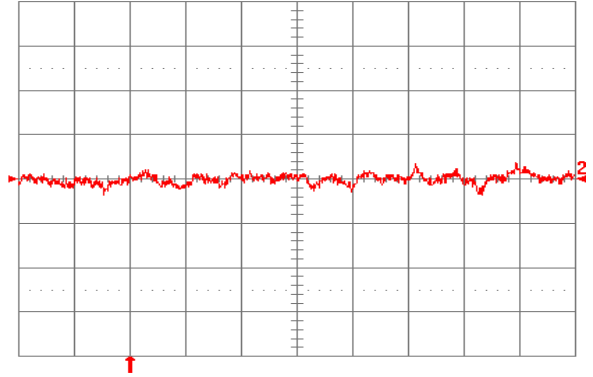

**Fig. 2.0V.14:** Test Setup for measuring input reflected ripple currents,  $i_c$  and  $i_s$ .
**Fig. 2.0V.1:** Available load current vs. ambient air temperature and airflow rates for SQ48T15020 converter with D height pins mounted vertically with  $V_{in} = 48\text{ V}$ , air flowing from pin 3 to pin 1, and maximum FET temperature  $\leq 120^\circ\text{C}$ .
**Fig. 2.0V.2:** Available load current vs. ambient air temperature and airflow rates for SQ48T15020 converter with D height pins mounted horizontally with  $V_{in} = 48\text{ V}$ , air flowing from pin 3 to pin 1, and maximum FET temperature  $\leq 120^\circ\text{C}$ .
**Fig. 2.0V.3:** Available load current vs. ambient air temperature and airflow rates for SQ48S15020 converter mounted vertically with  $V_{in} = 48$  V, air flowing from pin 3 to pin 1, and maximum FET temperature  $\leq 120$  °C.
**Fig. 2.0V.4:** Available load current vs. ambient air temperature and airflow rates for SQ48S15020 converter mounted horizontally with  $V_{in} = 48$  V, air flowing from pin 3 to pin 1, and maximum FET temperature  $\leq 120$  °C.
**Fig. 2.0V.5:** Efficiency vs. load current and input voltage for SQ48T/S15020 converter mounted vertically with air flowing from pin 3 to pin 1 at a rate of 300 LFM (1.5 m/s) and  $T_a = 25$  °C.
**Fig. 2.0V.6:** Efficiency vs. load current and ambient temperature for SQ48T/S15020 converter mounted vertically with  $V_{in} = 48$  V and air flowing from pin 3 to pin 1 at a rate of 200 LFM (1.0 m/s).
**Fig. 2.0V.7:** Power dissipation vs. load current and input voltage for SQ48T/S15020 converter mounted vertically with air flowing from pin 3 to pin 1 at a rate of 300 LFM (1.5 m/s) and  $T_a = 25^\circ\text{C}$ .
**Fig. 2.0V.8:** Power dissipation vs. load current and ambient temperature for SQ48T/S15020 converter mounted vertically with  $V_{in} = 48\text{ V}$  and air flowing from pin 3 to pin 1 at a rate of 200 LFM (1.0 m/s).
**Fig. 2.0V.9:** Turn-on transient at full rated load current (resistive) with no output capacitor at  $V_{in} = 48\text{ V}$ , triggered via ON/OFF pin. Top trace: ON/OFF signal (5 V/div.). Bottom trace: output voltage (1 V/div.). Time scale: 2 ms/div.
**Fig. 2.0V.10:** Turn-on transient at full rated load current (resistive) plus 10,000  $\mu\text{F}$  at  $V_{in} = 48\text{ V}$ , triggered via ON/OFF pin. Top trace: ON/OFF signal (5 V/div.). Bottom trace: output voltage (1 V/div.). Time scale: 2 ms/div.
**Fig. 2.0V.11:** Output voltage response to load current step-change (3.75 A – 7.5 A – 3.75 A) at  $V_{in} = 48$  V. Top trace: output voltage (100 mV/div.). Bottom trace: load current (5 A/div.). Current slew rate: 0.1 A/ $\mu$ s.  $C_o = 1$   $\mu$ F ceramic. Time scale: 0.2 ms/div.
**Fig. 2.0V.12:** Output voltage response to load current step-change (3.75 A – 7.5 A – 3.75 A) at  $V_{in} = 48$  V. Top trace: output voltage (100 mV/div.). Bottom trace: load current (5 A/div.). Current slew rate: 5 A/ $\mu$ s.  $C_o = 450$   $\mu$ F tantalum + 1  $\mu$ F ceramic. Time scale: 0.2 ms/div.
**Fig. 2.0V.13:** Output voltage ripple (20 mV/div.) at full rated load current into a resistive load with  $C_o = 10$   $\mu$ F tantalum + 1  $\mu$ F ceramic and  $V_{in} = 48$  V. Time scale: 1  $\mu$ s/div.
**Fig. 2.0V.15:** Input reflected ripple current,  $i_c$  (100 mA/div.), measured at input terminals at full rated load current and  $V_{in} = 48$  V. Refer to Fig. 2.0V.14 for test setup. Time scale: 1  $\mu$ s/div.
**Fig. 2.0V.16:** Input reflected ripple current,  $i_s$  (10 mA/div.), measured through 10  $\mu$ H at the source at full rated load current and  $V_{in} = 48$  V. Refer to Fig. 2.0V.14 for test setup. Time scale: 1  $\mu$ s/div.
**Fig. 2.0V.17:** Output voltage vs. load current showing current limit point and converter shutdown point. Input voltage has almost no effect on current limit characteristic.
**Fig. 2.0V.18:** Load current (top trace, 20 A/div., 20 ms/div.) into a 10 m $\Omega$  short circuit during restart, at  $V_{in} = 48$  V. Bottom trace (20 A/div., 1 ms/div.) is an expansion of the on-time portion of the top trace.